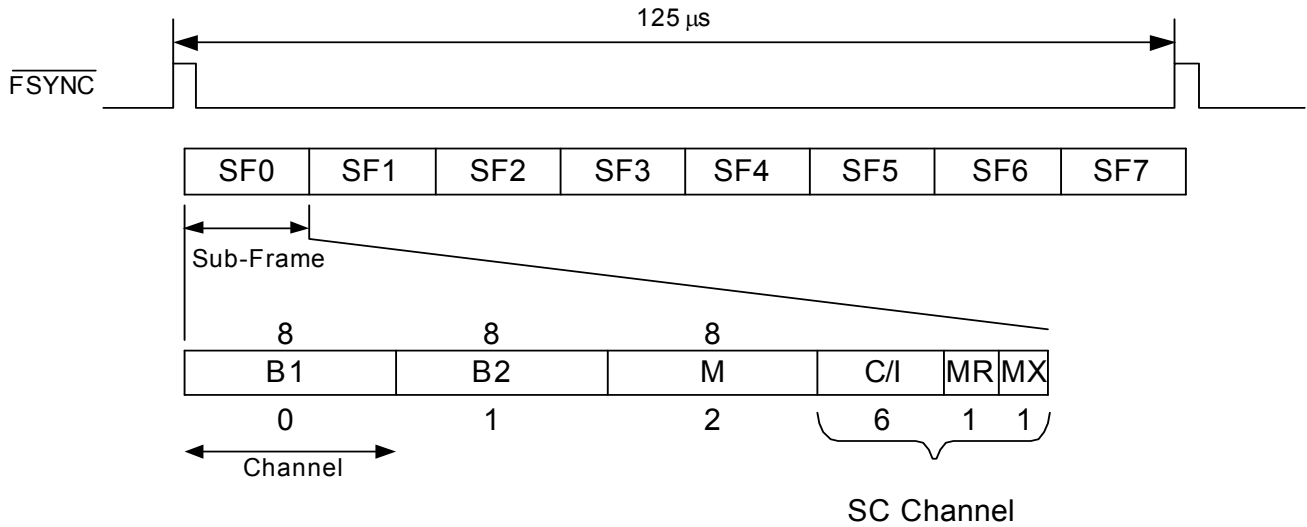

Figure 41. Time-Multiplexed GCI Highway Frame Structure
the beginning of the next frame. In 2x PCLK mode, there are twice as many PCLK cycles during each 125 μ s frame versus 1x PCLK mode. Each frame consists of eight fixed timeslot sub-frames that are assigned using the Sub-Frame Select pins as described in Table 18 on page 34 (SDI_THRU, SDO, and CS). Within each sub-frame are four channels (bytes) of data, including the two voice data channels (B1 and B2), one Monitor channel (M) for initialization and setup of the device, and one Signaling and Control channel (SC) for communicating status of the device and for initiating commands. Within the SC channel are six Command/Indicate (C/I) bits and two handshaking bits (MR and MX). The C/I bits are used for status and command communication, whereas the handshaking bits Monitor Receive (MR) and Monitor Transmit (MX) are used for data exchanges in the Monitor channel. Figure 41 illustrates the contents of a GCI highway frame.
Figure 41 illustrates the Monitor channel communication protocol. For successful communication with the Si3050, the transmitter should anticipate the falling edge of the receiver's acknowledgement. This also maximizes communication speed. Because of the handshaking protocol required for successful communication, the data transfer rate using the Monitor channel is less than 8 kbytes/second.